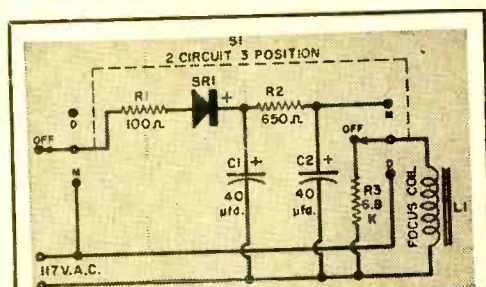

Fig. 1. Schematic diagram. See parts list below.
in Fig. 1. The simple power-supply circuit utilizes a selenium rectifier which rectifies the alternating current from the line, delivering a pulsating direct current on the "plus" side of the rectifier. Resistor *R1* is a protective resistor which limits the surge current through the rectifier when the switch is first set to "M." Capacitors *C1* and *C2* and the resistor *R2* filter out any ripple voltage so that substantially pure direct current is applied to the coil. *R3* is connected across the coil in the "OFF" position, and helps to reduce arcing
MAKING ETCHED CIRCUITS. The basic steps in producing an etched wiring board and assembling a circuit are illustrated in Fig. 1 (p. 62). The raw material is a laminated board consisting of an insulating base with a layer of metal foil bonded to its surface. The foil may be on either one or both sides. In most work, a copper-foil clad laminated paper-base phenolic is used.
Fig. 1. In the commercial production of etched circuit boards, the plain metal clad board shown at (A) is covered with a special material which resists chemical action. This "resist" is applied in the pattern of the desired final circuit, as shown at (B), using photographic, plating, spraying, stenciling, or printing techniques. With the resist applied, the foil-clad board is placed in a chemical etchant which attacks and eats (etches) away all unprotected metal, leaving only the foil pattern protected by the resist (C). After that, the resist is removed, exposing the bare metal foil (D). Machining is next (E), with mounting and wiring holes drilled or punched at appropriate places in the board. Metal eyelets, if used, are now mounted in the board (F). With step (F), the wiring board itself is completed. To complete the circuit, electrical components are mounted on the back of the board by passing their leads through appropriate holes in the board (G). Finally, the board is soldered and excess lead lengths cut off, resulting in the completed circuit shown at (H). In production work, the entire board is generally soldered in one operation by dipping it into a "pot" of solder—with the operation called, appropriately, "dip soldering." Thus, hundreds of soldered connections may be made at one time without a soldering iron!